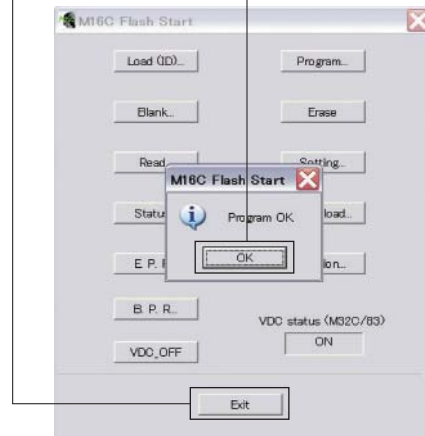

Fig. 7
9. When writing of the firmware is completed, the screen appears as shown below. (Fig. 7)
Click [OK]. (Fig. 7)
10. Click [Exit] to end FlashSta.exe. (Fig. 7)
画面が表示されます。(Fig. 7)
[OK] をクリックします。(Fig. 7)
(Fig. 7)